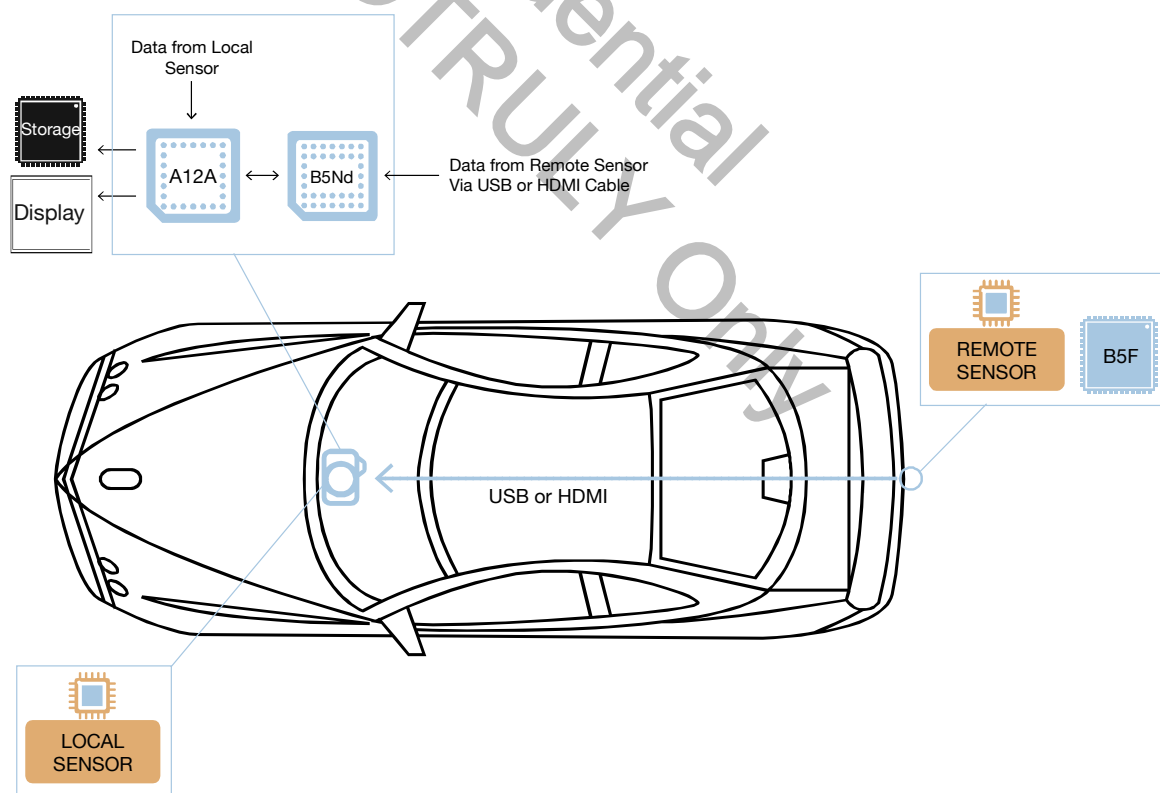

Figure 1-4. A12A55 Automotive Camera Application: Local / Remote Sensor Configuration (B5-Equipped).
2. Inputs from both a local sensor and a remote sensor are sent to the A12A55 SoC (Figure 1-4)